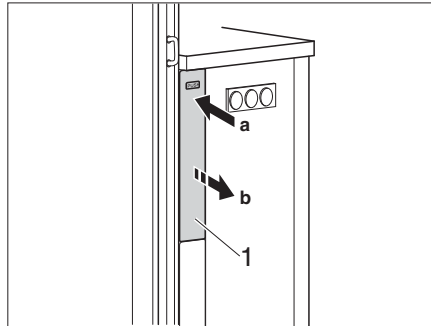

Fig. 119 Loosening the extension
- Press the cover (Fig. 119,1) of the extension. The extension is released.
- Slide the extension (Fig. 119,1) into the kitchen structure until it latches in.